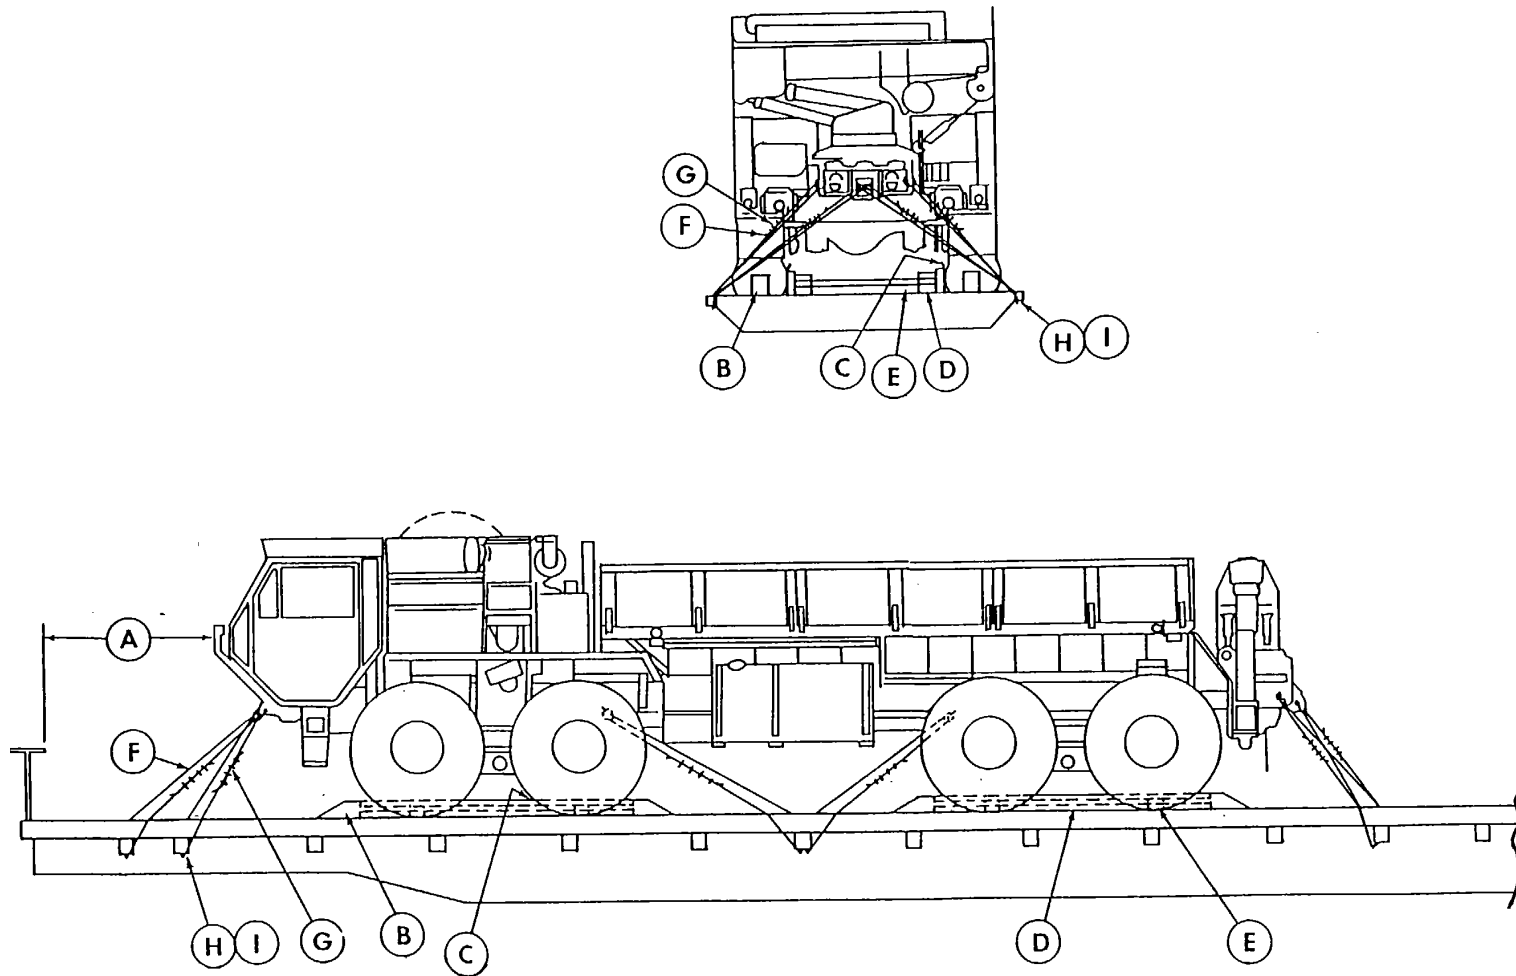
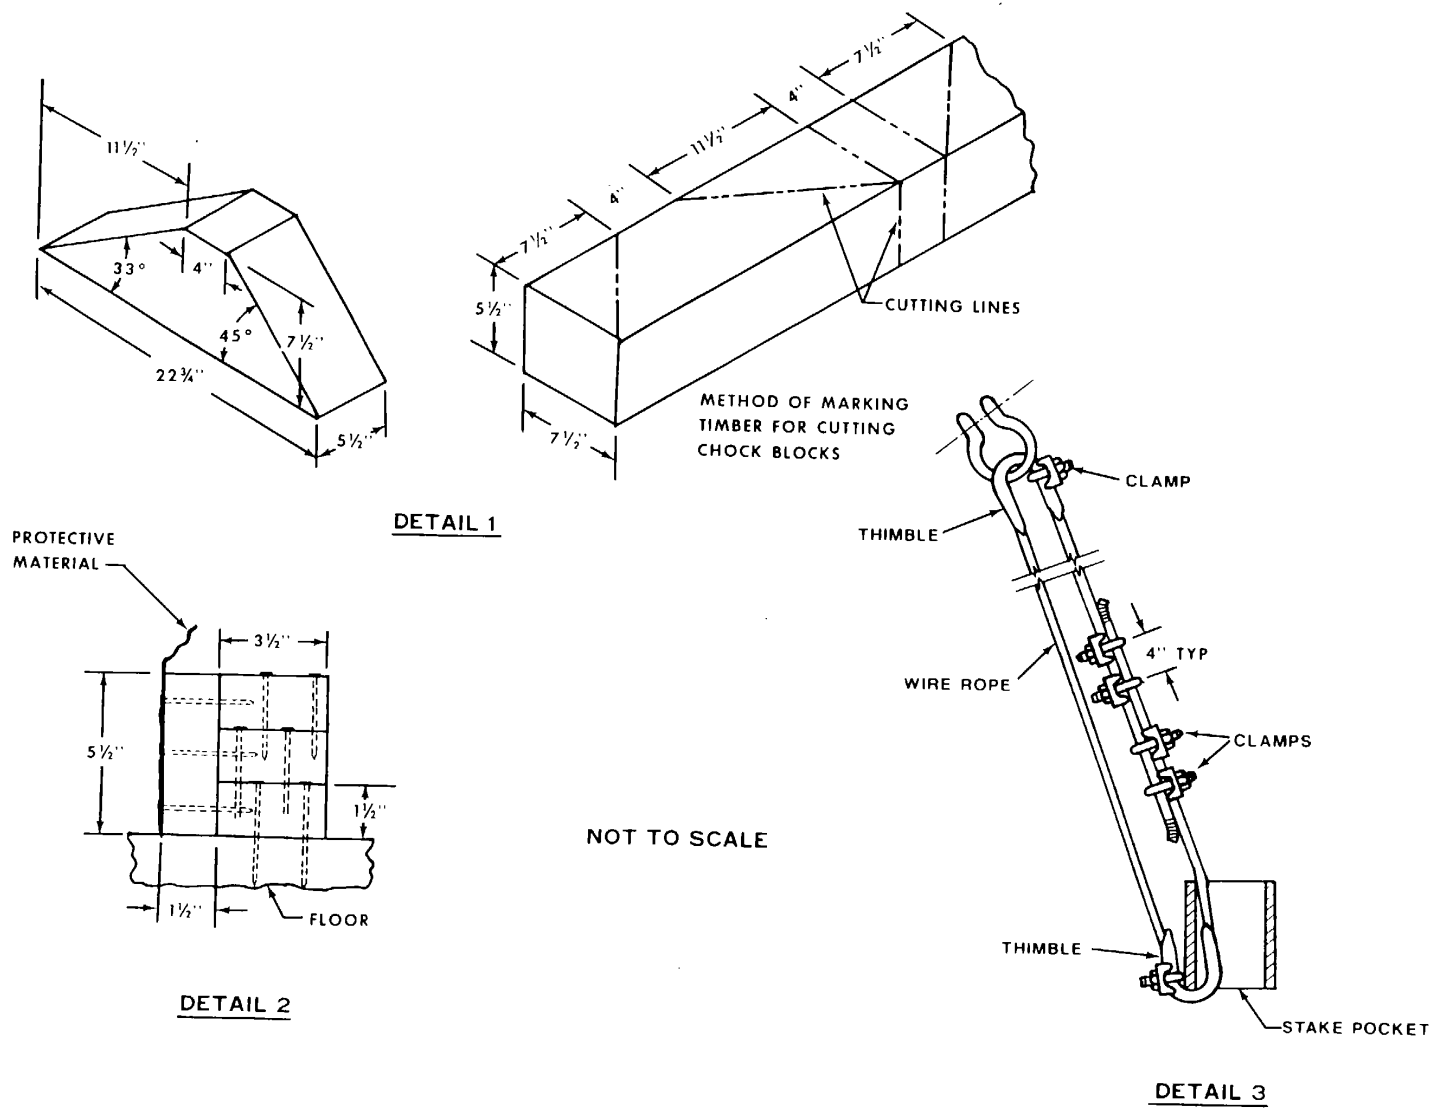

Figure 7-1. Blocking and tiedown of the M985E1, M983, or M977 vehicles on CONUS general-purpose flatcars.
Figure 7-2. Blocking and tiedown details (fig. 7-1).
minimum flatcar width of 9 feet 6 inches for all items associated with the PATRIOT system except the M373A2, LS, and RS. M373A2 semitrailers should be shipped on trailer-on-flatcar (TOFC) railcars when practical. The LS and RS require a flatcar width of 10 feet 4 inches. For rail transport, the RS is removed from the M860A1 semitrailer and the AMG and ECS are removed from the truck and placed on a flatcar. Figure 7-1 through 7-12 provide tiedown diagrams that are compatible with standard loading practices for adequate restraint. Where necessary, blocking and tiedown details are shown. The bill and application of materials for blocking and tiedown are provided in tables following the respective figures.
b. Figure 7-1 shows the typical loading of the PATRIOT system HEMTT vehicles onto general purpose flatcars. Blocking and tiedown details are shown in figure 7-2. The bill and application of materials for blocking and tiedown are provided in tables 7-1 and 7-2, respectively.
Table 7-1. Bills of Materials for Blocking and Tiedown of the M985E1, M983, or M977 Trucks on CONUS General-Purpose Flatcars (Figs. 7-1 and 7-2)
Table 7-2. Application of Materials for Blocking and Tiedown of the M985E1, M983, or M977 Trucks on CONUS Flatcars (Figs. 7-1 and 7-2)
Table 7-2. Application of Materials for Blocking and Tiedown of the M985E1, M983, or M977 Trucks on CONUS Flatcars (Figs. 7-1 and 7-2)Continued
Blocking and tiedown details are shown in figure 7-2.
Table 7-3. Bill of Materials for Typical Blocking and Tiedown of the 5-Ton Trucks and Truck-Tractors Used in the PATRIOT Missile System on CONUS General-Purpose Flatcars (Figs 7-2 and 7-3)
Table 7-4. Application of Materials for Typical Blocking and Tiedown of the 5-Ton Trucks and Truck-Tractors Used in the PATRIOT Missile System on CONUS General-Purpose Flatcars (Figs 7-2 and 7-3)
Table 7-4. Application of Materials for Typical Blocking and Tiedown of the 5-Ton Trucks and Truck-Tractors Used in the PATRIOT Missile System on CONUS General-Purpose Flatcars (Figs 7-2 and 7-3)-Continued
Table 7-6. Application of Materials for Typical Blocking and Tiedown of PATRIOT Van-Type Semitrailer-Mounted Components on CONUS General-Purpose Flatcars (Figs 7-2, 7-4, and 7-5)